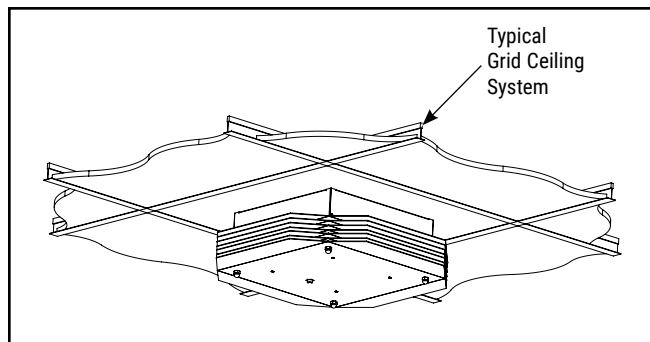

Figure 2.
2. Place the fixture with ceiling plate in the grid ceiling system. (See Figure 2).